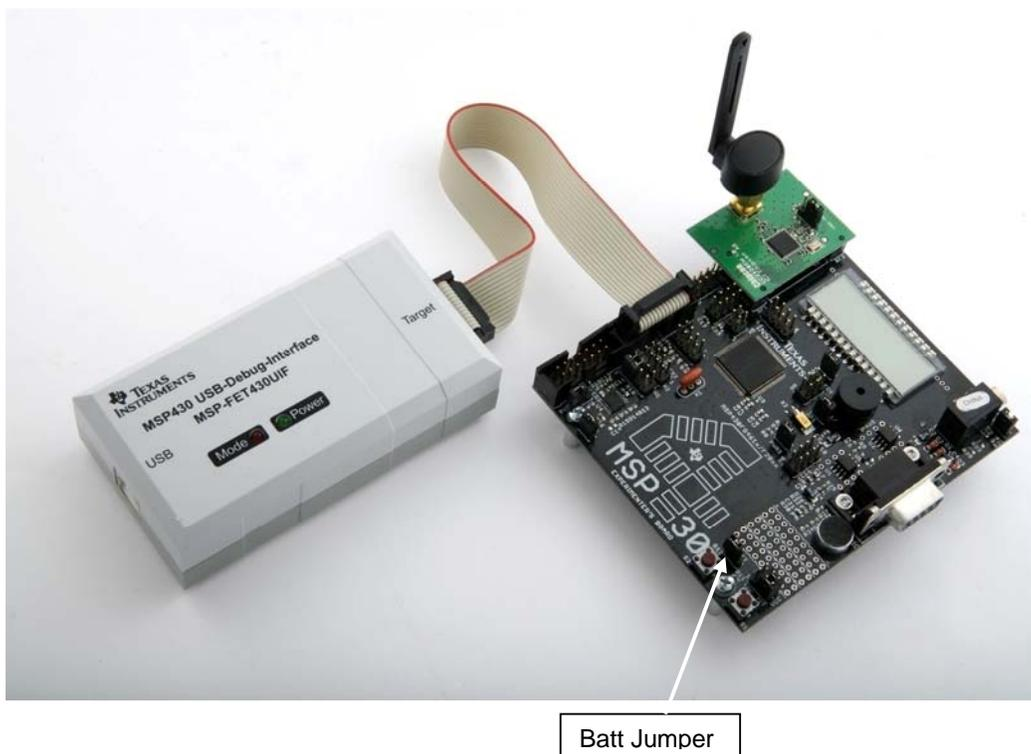

Figure 1 Experimenter board and CC2420EM with FET programmer
1. Connect the FET programmer to the MSP Experimenter board, and connect an USB cable from the FET programmer to the PC. See Figure 1. The cable from the FET programmer must be connected to the JTAG connector closest to the CC2420EM. This connector is marked JTAG1. Power the board with 2 AAA batteries. Connect the jumper marked with *Batt* on the boards (This jumper is placed beside Button S2). Make sure that the jumper on the CC2420EM is connected to the center pin and the pin longest away from the antenna.